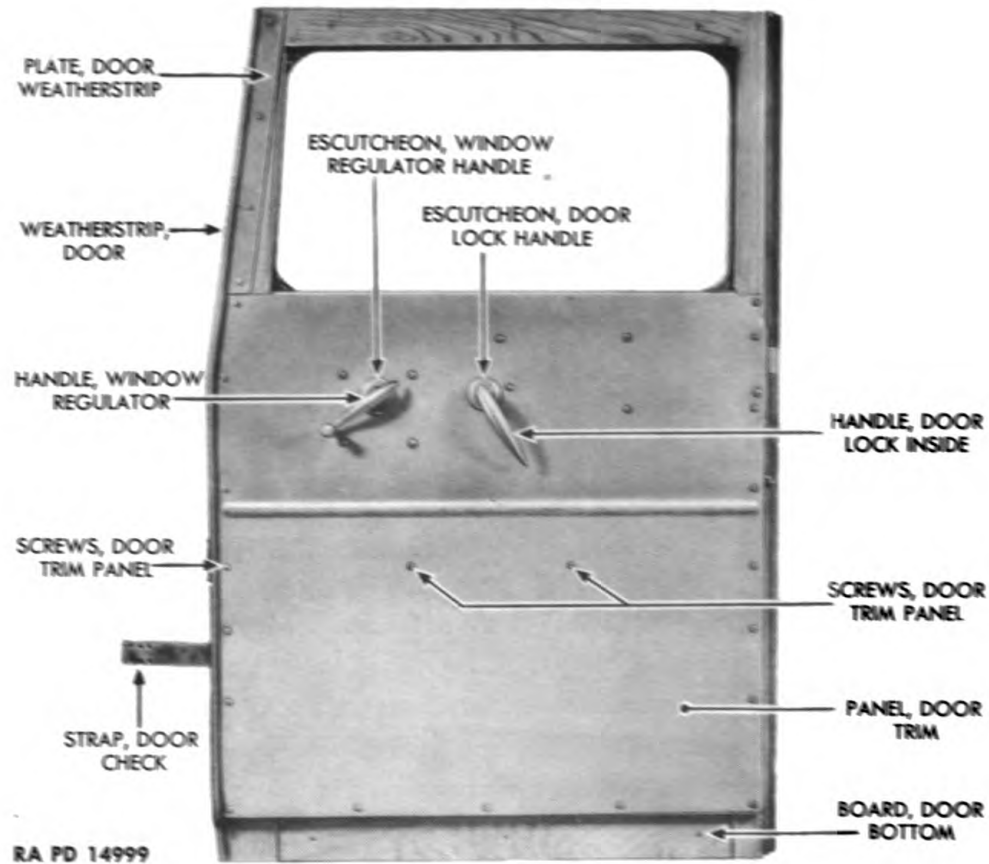

Figure 119—Cab Door Assembly
- (a) Press down on door lock handle escutcheon (fig. 119) and push out pin which holds door lock handle to door lock shaft.
(a) Remove screws around outer edge of door trim panel. Do not remove eight slotted head screws (fig. 119).
(b) Remove the two door trim panel screws in center of door trim panel (fig. 119).